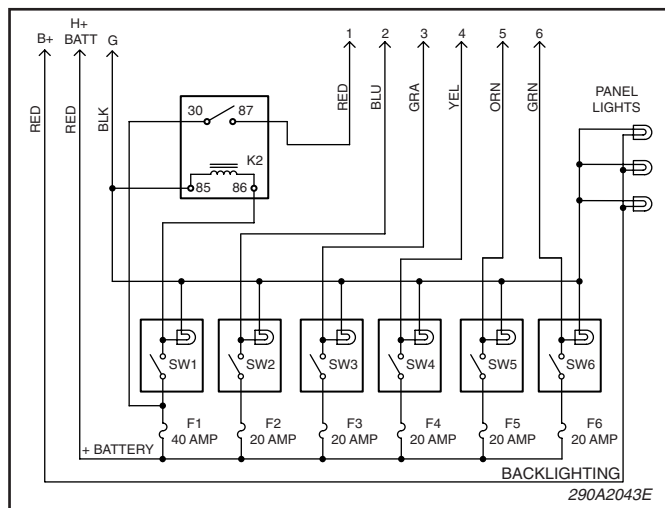

Figure 3. Wiring Diagram.
Figure 3 illustrates the correlation of the color-coded wires to a corresponding switch. Example: Switch 1 (switch at extreme left) controls the signal at the unmarked red wire.
1. See figure 3 to correlate the color-coded wires to the corresponding switches. Use 12GA wire and connect SW1 (unmarked red wire) to the applicable accessory load. Use 14GA wire and connect SW2 through SW6 to the applicable accessory load.